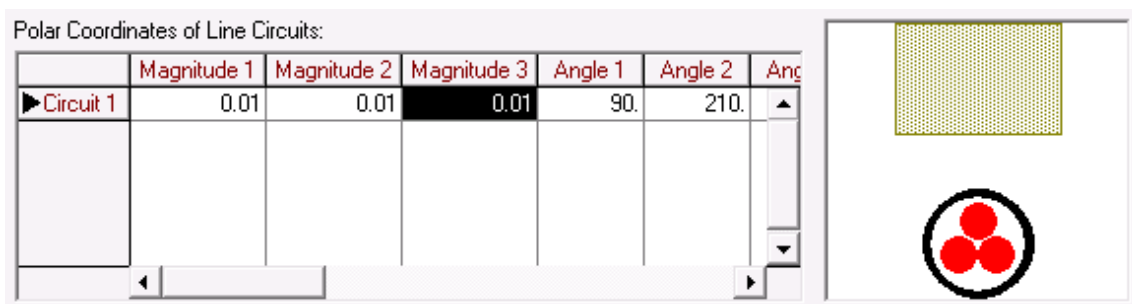

Figure 15.4: Polar Coordinates
- Coordinates of circuits in pipe are represented in polar coordinates (see Fig. 15.4)